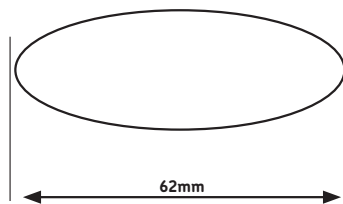

Fig. 1
- Cut a suitable hole in the ceiling as per the cut-out detail (see Fig. 1) ensuring that it does not infringe with electrical cables, water / gas pipes or ceiling joists